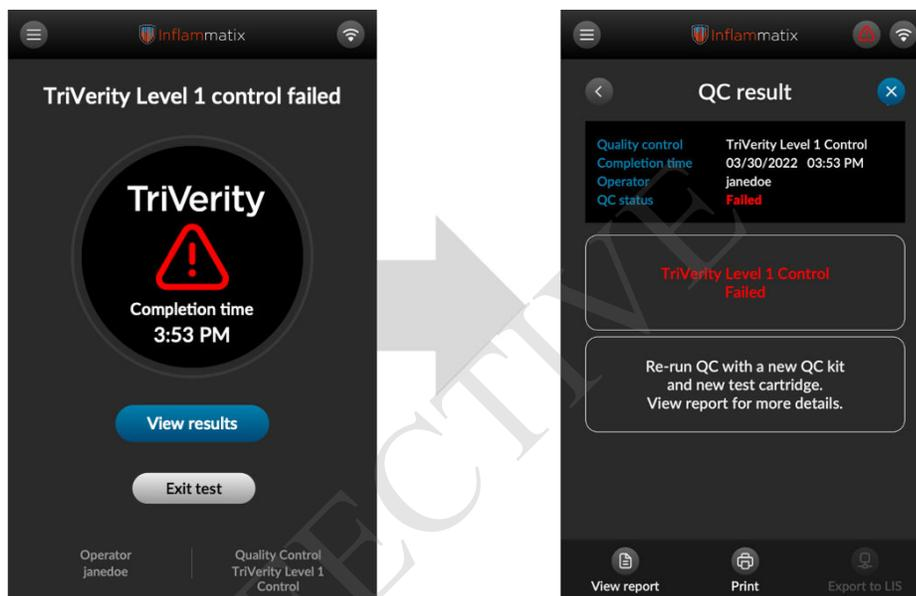

Figure 27
- B. If an external quality control fails, the sequence of screens in *Figure 27* will be displayed. Instructions on how to proceed will be provided in the results screen.